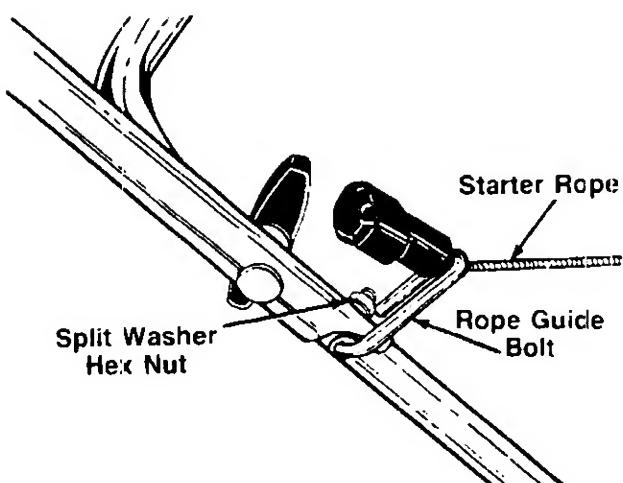

FIGURE 5.
1. Insert the rope guide bolt through the hole provided in the right side of the handle. Secure with split washer and hex nut. finger tight only. See figure 5.
3. With the spark plug wire disconnected and grounded, depress the blade control handle and pull the rope out of the engine. Slip the starter rope into the rope guide bolt as shown in figure 5.